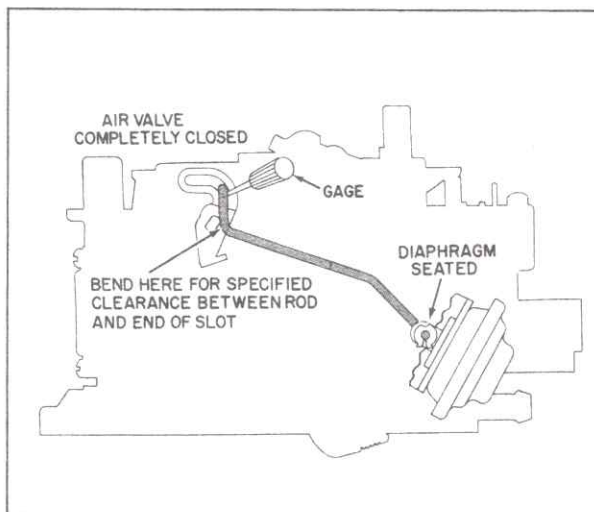

Fig. 6-98 Air Valve Dashpot Adjustment
### 81. Air Valve Dashpot Adjustment (Fig. 6-98)
2. Bend rod at air valve end, Fig. 6-98, to adjust.